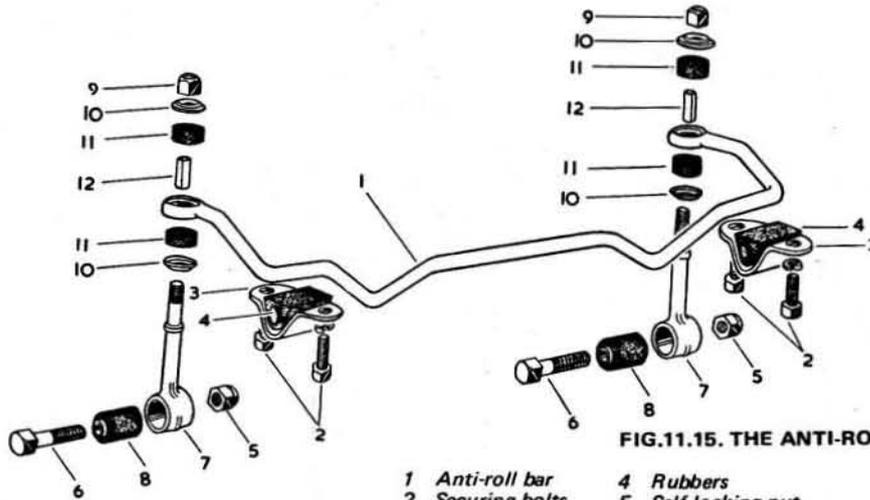

FIG.11.15. THE ANTI-ROLL BAR ASSEMBLY
#### 9 Anti-roll bar - removal, refitting and replacement of rubber bushes (Fig.11.15)
6 To replace the bracket rubbers (item 4 in Fig.11.15). Raise the front of the car and support it firmly. Remove the two bolts securing each bracket, remove the brackets and pull down on the
7 To replace the upper and lower cup washers and rubbers (items 10 and 11 in Fig.11.15) first remove the self locking nut at the top of each link arm and then push upwards on the bar to clear the link arm. If you cannot get sufficient movement of the bar to clear the link arm, slacken the bolts to the brackets on the chassis side members. The cup washers and rubbers can be lifted off when the bar is clear of the link arm new items can be fitted but do not overlook replacement of the spacer and the necessity for the full weight of the car to be taken on the wheels before tightening the bracket bolts.